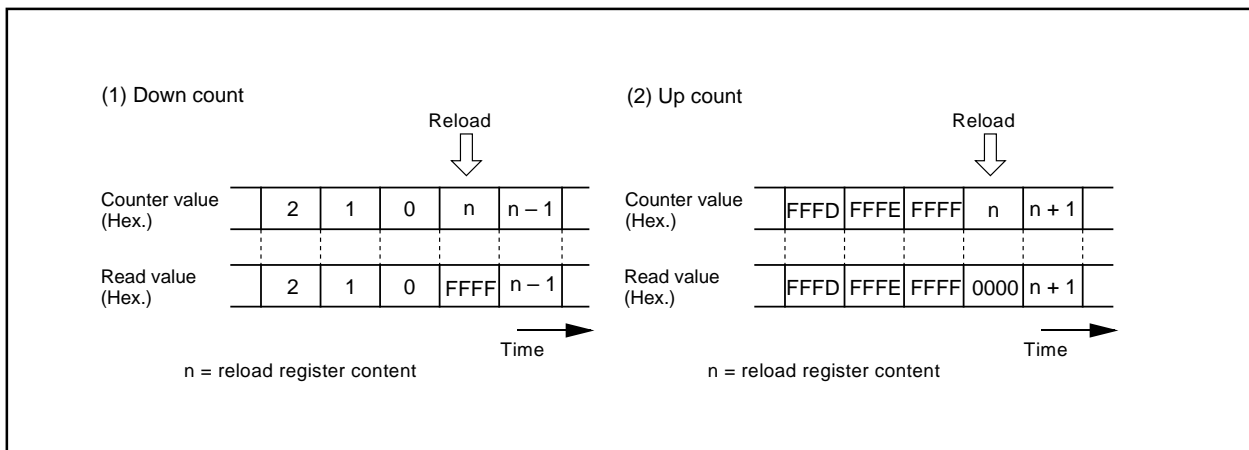

Figure 1.3.2. Reading timer Ai register
- Reading the timer Ai register while a count is in progress allows reading, with arbitrary timing, the value of the counter. Reading the timer Ai register with the reload timing shown in Figure 1.3.2 gets "FFFF₁₆" by underflow or "0000₁₆" by overflow. Reading the timer Ai register after setting a value in the timer Ai register with a count halted but before the counter starts counting gets a proper value.